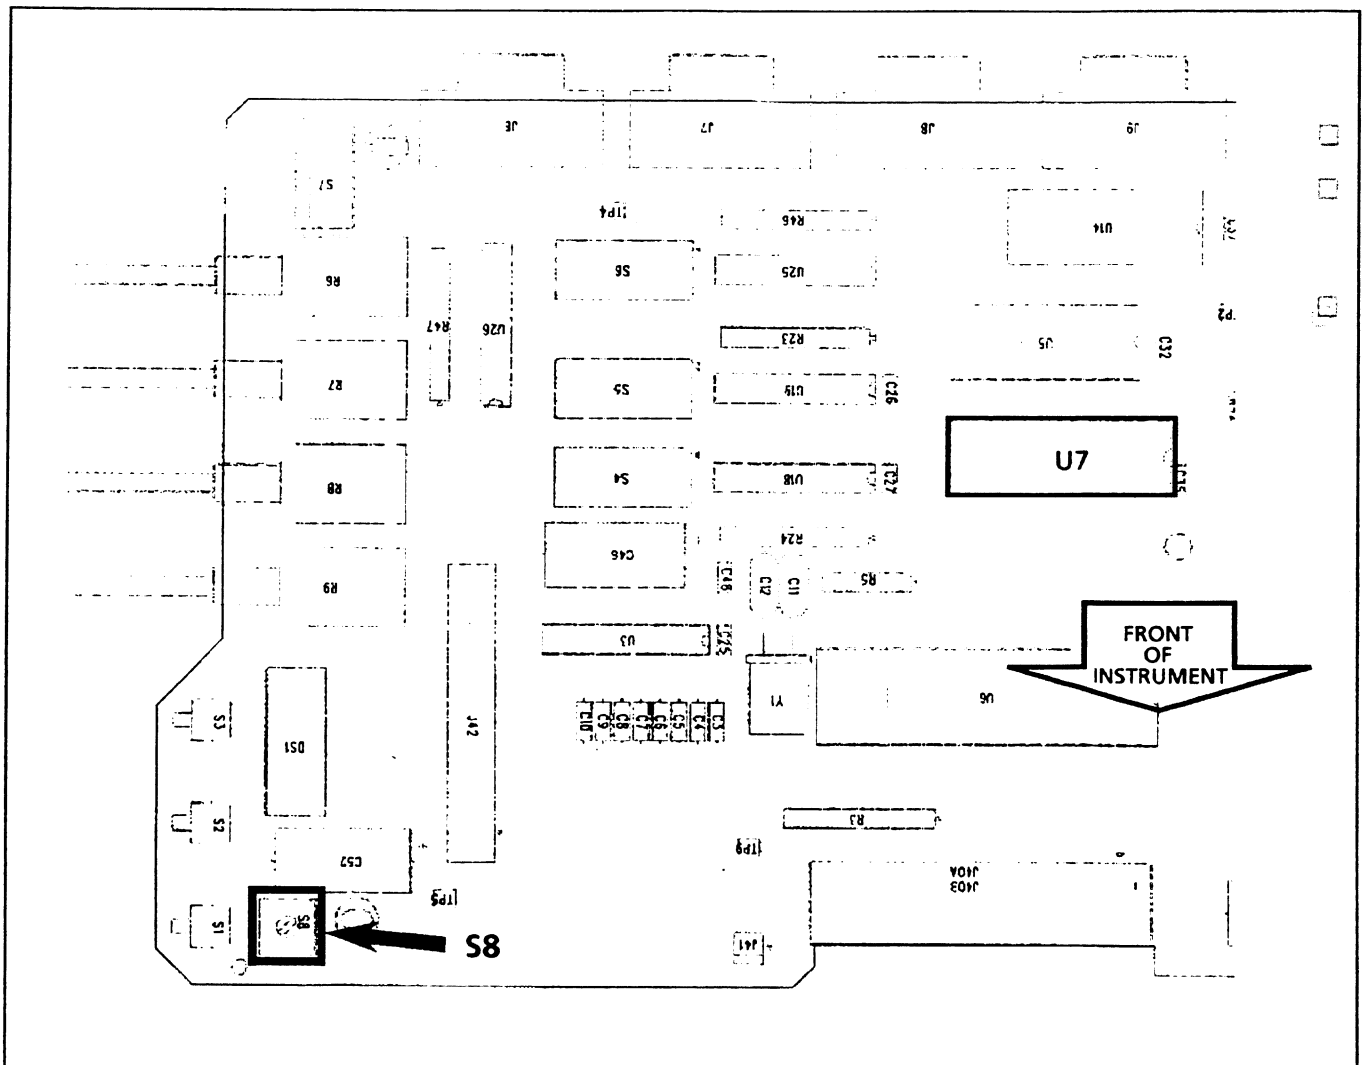

Fig. 7. Partial Remote Control (A1) circuit board assembly (RC 211) showing location of U7 and S8.
- 3. Make the following changes on the Remote Control circuit board (Refer to fig. 7 for component locations):